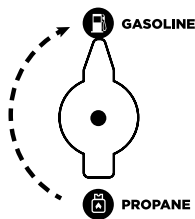

Figure 9 - Fuel Selector - Gasoline
8. Move the fuel selector switch to Gasoline (see Figure 9).